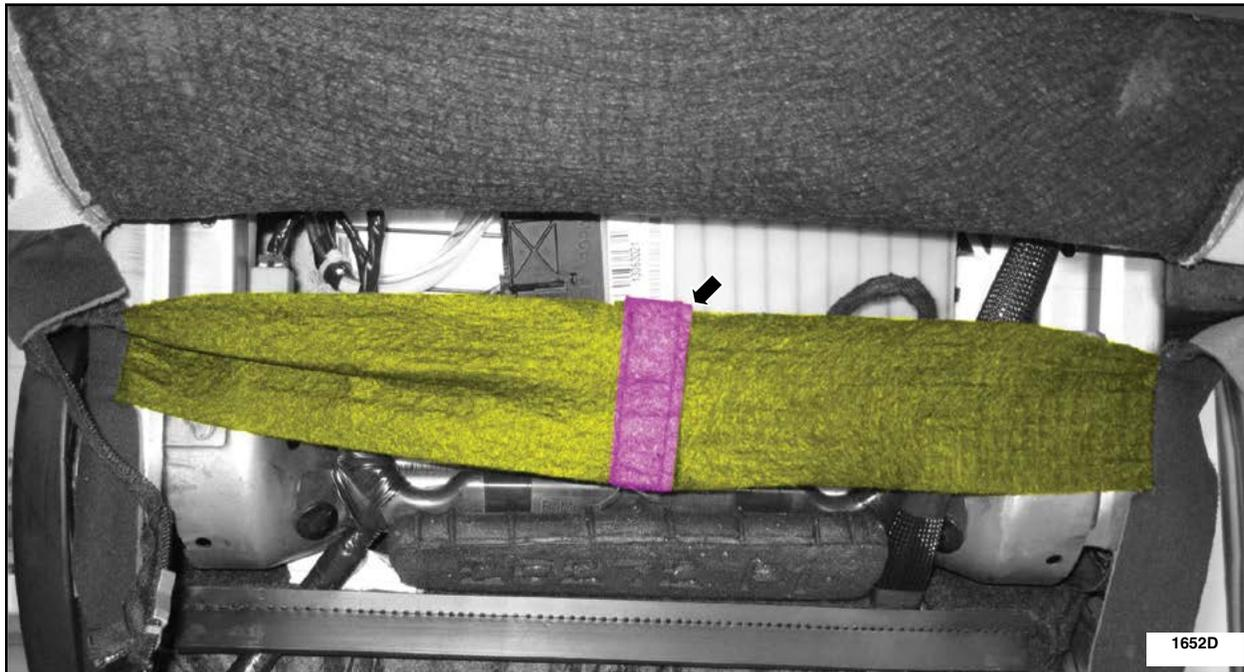

FIGURE 4
4. For F-150 vehicles, detach the hook-and-loop retainer and position the backrest cover strap aside. See Figure 4.